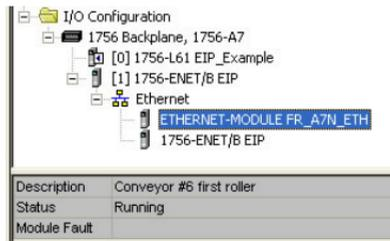

Figure 81: Online Module Status
- 7) Switch to online mode and download the project to the PLC. Verify that the newly-added inverter is available and operating correctly by observing any indications shown on the inverter's icon. When the inverter's icon is selected, its status and any available error messages will be displayed in the area below the project tree. Refer to Figure 81. Also confirm that the interface card's "Network Status" LED should be solid green, indicating an "online/connected" state.